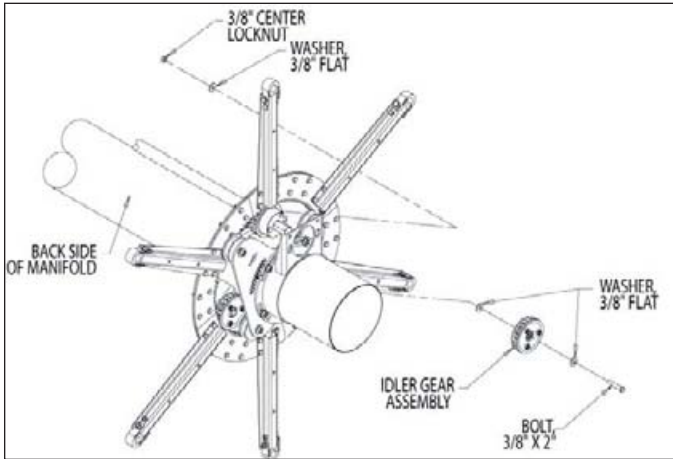

Figure 25, Idler gear installation (front side)
1. Assemble one idler gear assembly each to the RH & LH end clamps, and to all idler mount clamps (front side of manifold only), using one 3/8" X 2" bolt, three 3/8" flat washers and one 3/8" centerlock nut per each idler gear assembly (Figure 25).